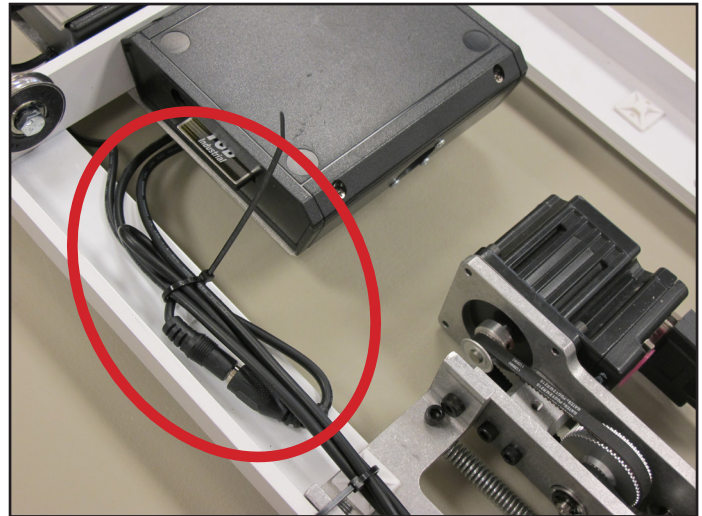

Figure 25
a. It may be necessary to fold the barrel connector cable over on itself prior to mounting with the cable ties as this cable may be slightly longer than needed (*Figure 25*).